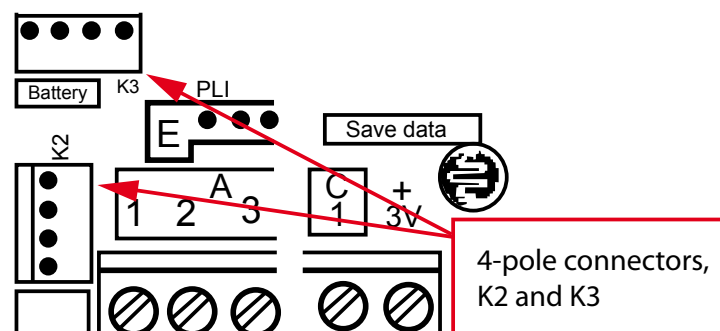

Fig. 1, F4 connection terminal
3. Cut the power by disconnecting the four-pole connectors “K2” and “K3”, cf. Fig.1.